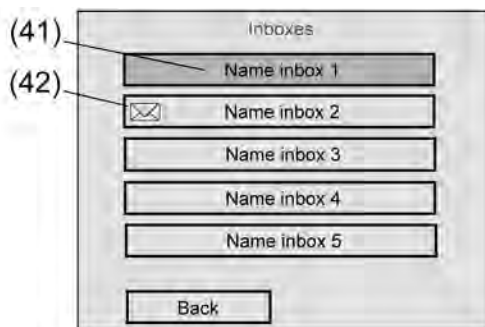

Figure 40: System page for mailboxes
The panel automatically transmits a "0" telegram about mailbox objects onto the bus, as soon as the panel operator opens a mailbox via the "Mailboxes" system page (figure 40), and thus displays the contents.
The operator of the panel can display the contents of their mailboxes on the device display at any time and thus read the e-mail messages. To do this, they must open the "Mailboxes" system page (figure 40). It is possible to jump to this page by opening the page using a function button.
- i** Newly arrived e-mails are not signalled on the screen for as long as the inbox display page is shown or Read mode is active. New messages are only visible on the screen with the "Letter icon" (figure 40) when the inbox display page is exited. The newly arrived messages can be read the next time the display page is opened.